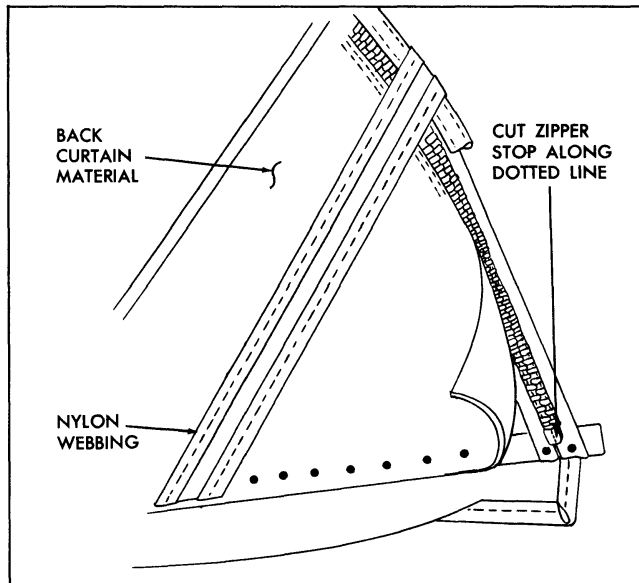

Fig. 22-54 Back Curtain Vinyl Replacement
9. Using a pair of wire cutting shears or other suitable tool, cut zipper stop along dotted line and remove both halves of stop from zipper (Fig. 22-54).